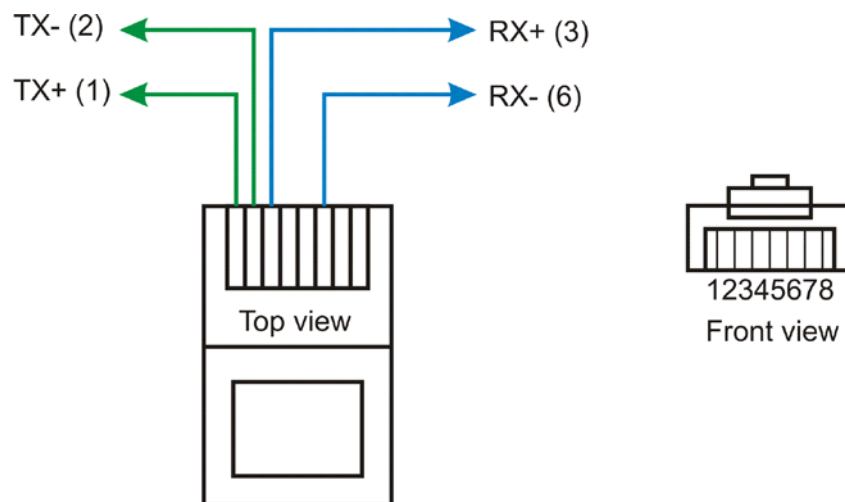

Figure 5: LAN-interface MDIX-Pin assignment
- 4 × RJ45 Ethernet 10/100 Base-T, MDI/MDIX-Autosensing (Pin assignment as illustrated in fig. 5)